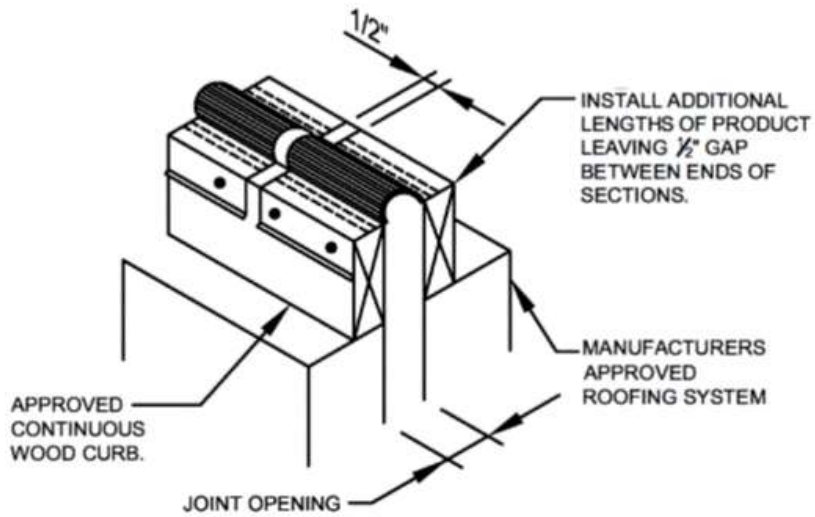

Figure 3
3. Repeat steps 1 and 2 for remaining sections of product being sure to provide 1/2" gap between ends of sections. **See Figure 3**